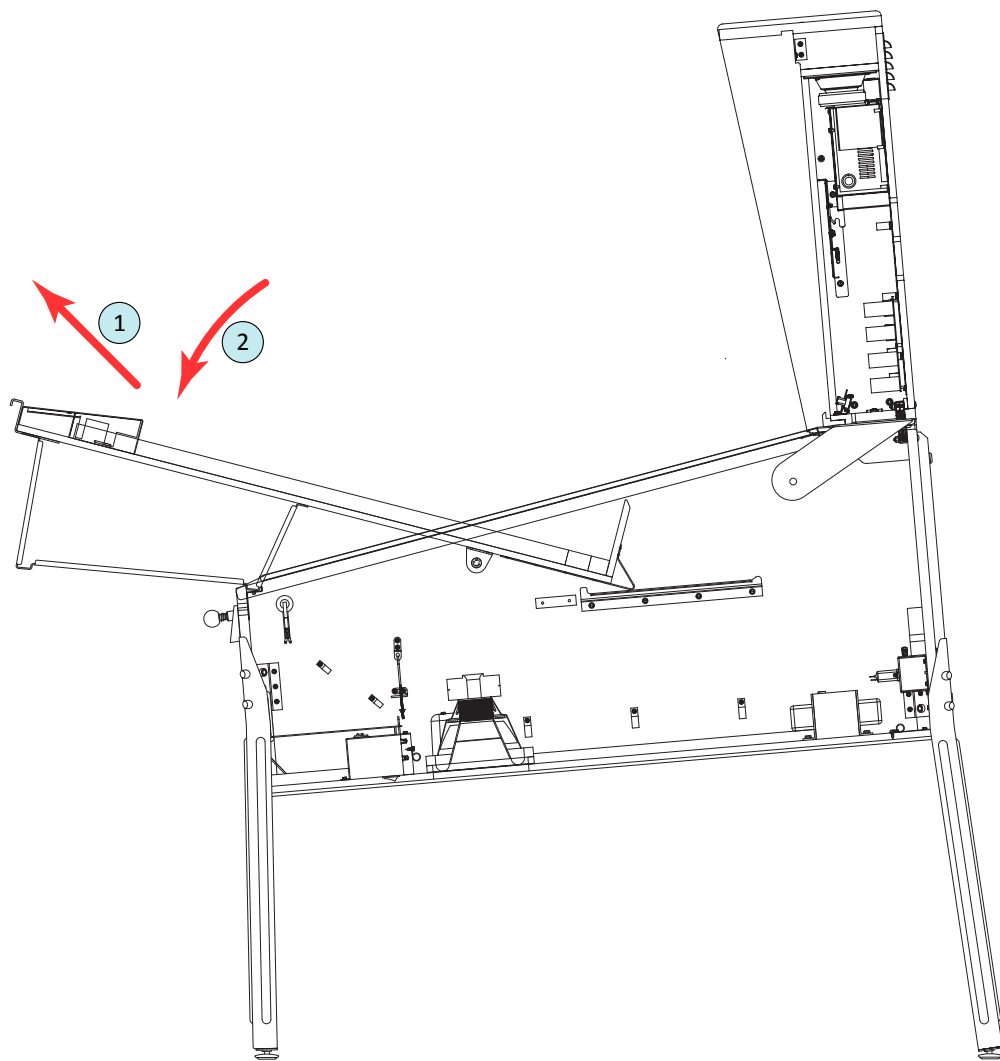

Figure A14. Moving the playfield to position 3.
**14)** Move the playfield from position 2 to 3 (figure A14). Pull it upward and outward until the second pair of feet in the support brackets reach the top of the lockdown bar receiver; again, lower the playfield, resting the feet in the channel.